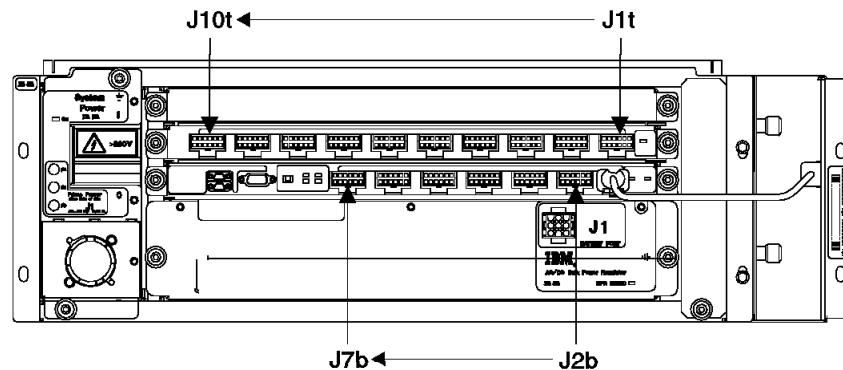

Figure 123. 2105 Primary Power Supply Connectors (5007380)
5. Determine where the drawer power cable, from the failing SSA DASD drawer power supply, connects to a primary power supply. Also determine where the other drawer power cable from this drawer connects to the same primary power supply. See "Bulk Power Supply Connection Physical Location Codes" in chapter 7 of the *2105 Model 100 Attachment to ESS Service Guide* book, to determine where the power cables should be plugged. Refer to Figure 123 for primary power supply connector names and locations.